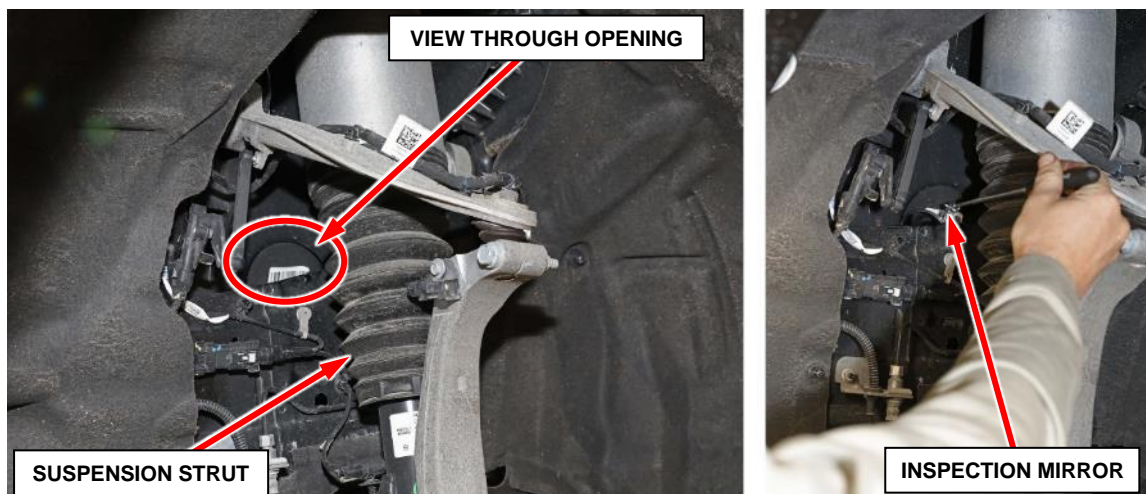

Figure 1 – Inspection Access Location
- c) Inspection access to the steering U-joint coupling through opening as shown (Figure 1).